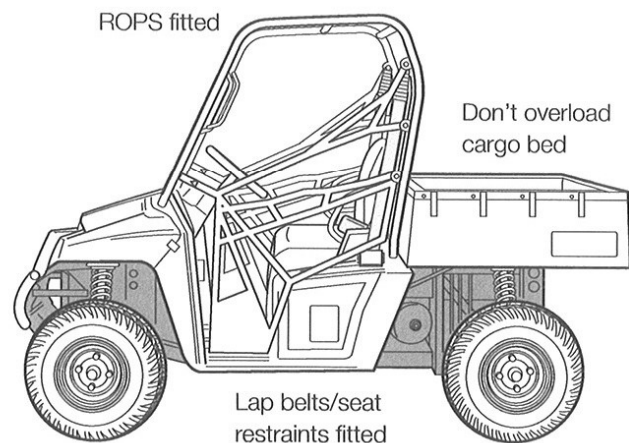

Figure 2 Example of a side-by-side ATV
- **Side-by-side ATVs:** Small utility vehicles in which the driver and passenger sit alongside each other in conventional (ie sit-in) seats (see Figure 2). Most side-by-side vehicles are capable of carrying two occupants in this way; however, some vehicles are equipped with a second row of seating (and can therefore carry four occupants), while others have bench-style seats allowing up to three people to be seated in a row. The majority of side-by-side vehicles have four wheels, although six-wheel and full and partially tracked versions are also available. There is usually a cargo bed behind the seating area. Side-by-side ATVs are sometimes referred to as utility vehicles (UTVs) or rough terrain utility vehicles (RTVs).